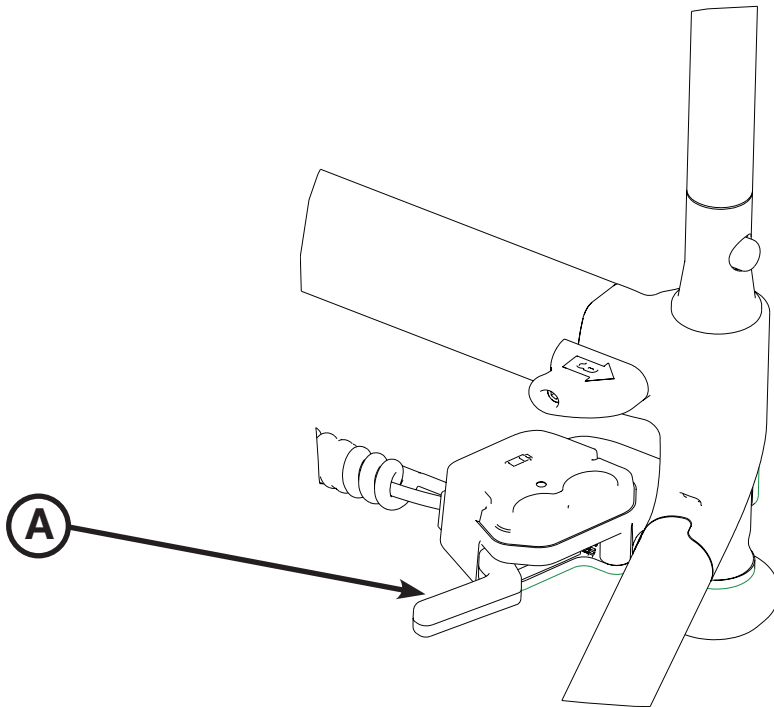

Figure 15: Manual Release Handle
The **red** manual back-up release handle (A) is located along the patient left side of the lower lift bar at the foot end of the cot as shown in Figure 15.